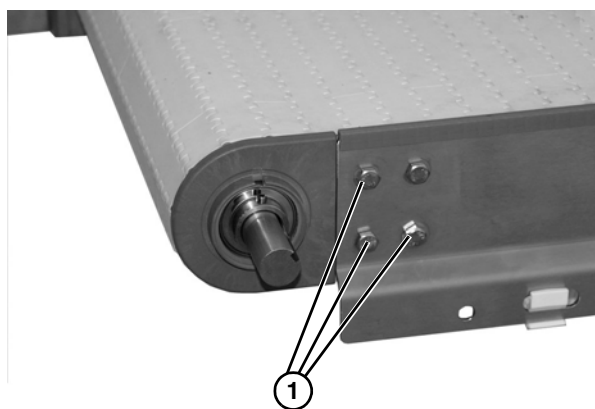

Figure 6
3. On opposite side of conveyor, remove three bolts (**Figure 6, item 1**).